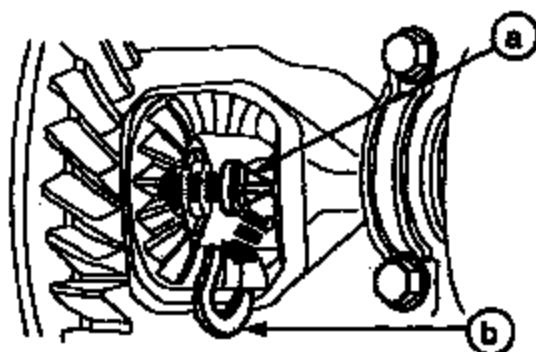

FIGURE 8
9. Remove the U-washer (refer to Figure 8).